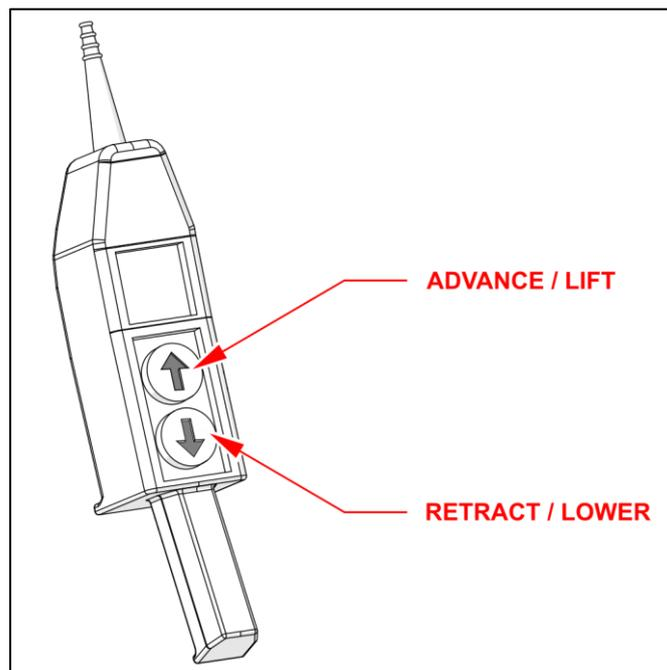

Figure 6.1: Control Pendant Operation
2. Turn the motor on by pressing the green 'ON' button (9) on the electrical control box (10).
3. Using the remote 'control pendant' (8), press the 'UP' button to extend/advance the jacking cylinder and the 'DOWN' button to retract/lower the jacking cylinder. (See figure 6.1)
7. Turn the motor off by pressing the red 'OFF' button (9) on the electrical control box (10).